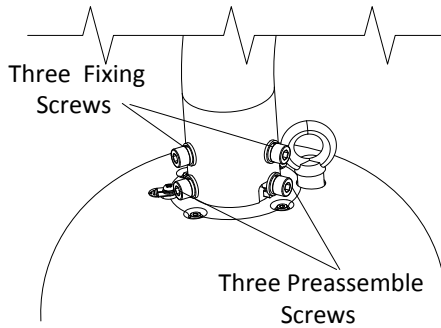

Figure 2-13 Secure the Speed Dome
5. Screw three fixing screws into the fixing screws holes on the bracket. Then tighten three preassemble screws to secure the speed dome as shown in Figure 2-13.